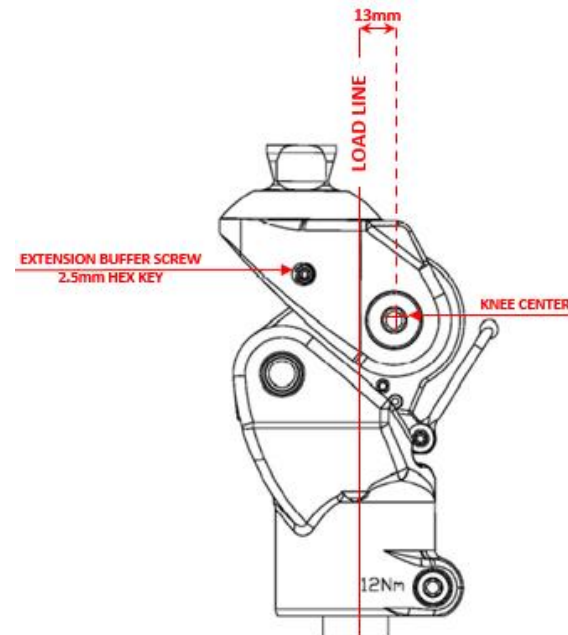

Figure 1
- Align the socket so that the load line falls approximately 13mm anterior to the knee axis, as indicated in *Figure 1*
- If there is joint play when the knee is locked, Use a 2.5mm hex key to tighten the extension buffer adjustment screw until joint play is eliminated. It is located on the upper, left side of the knee (see figure 1)